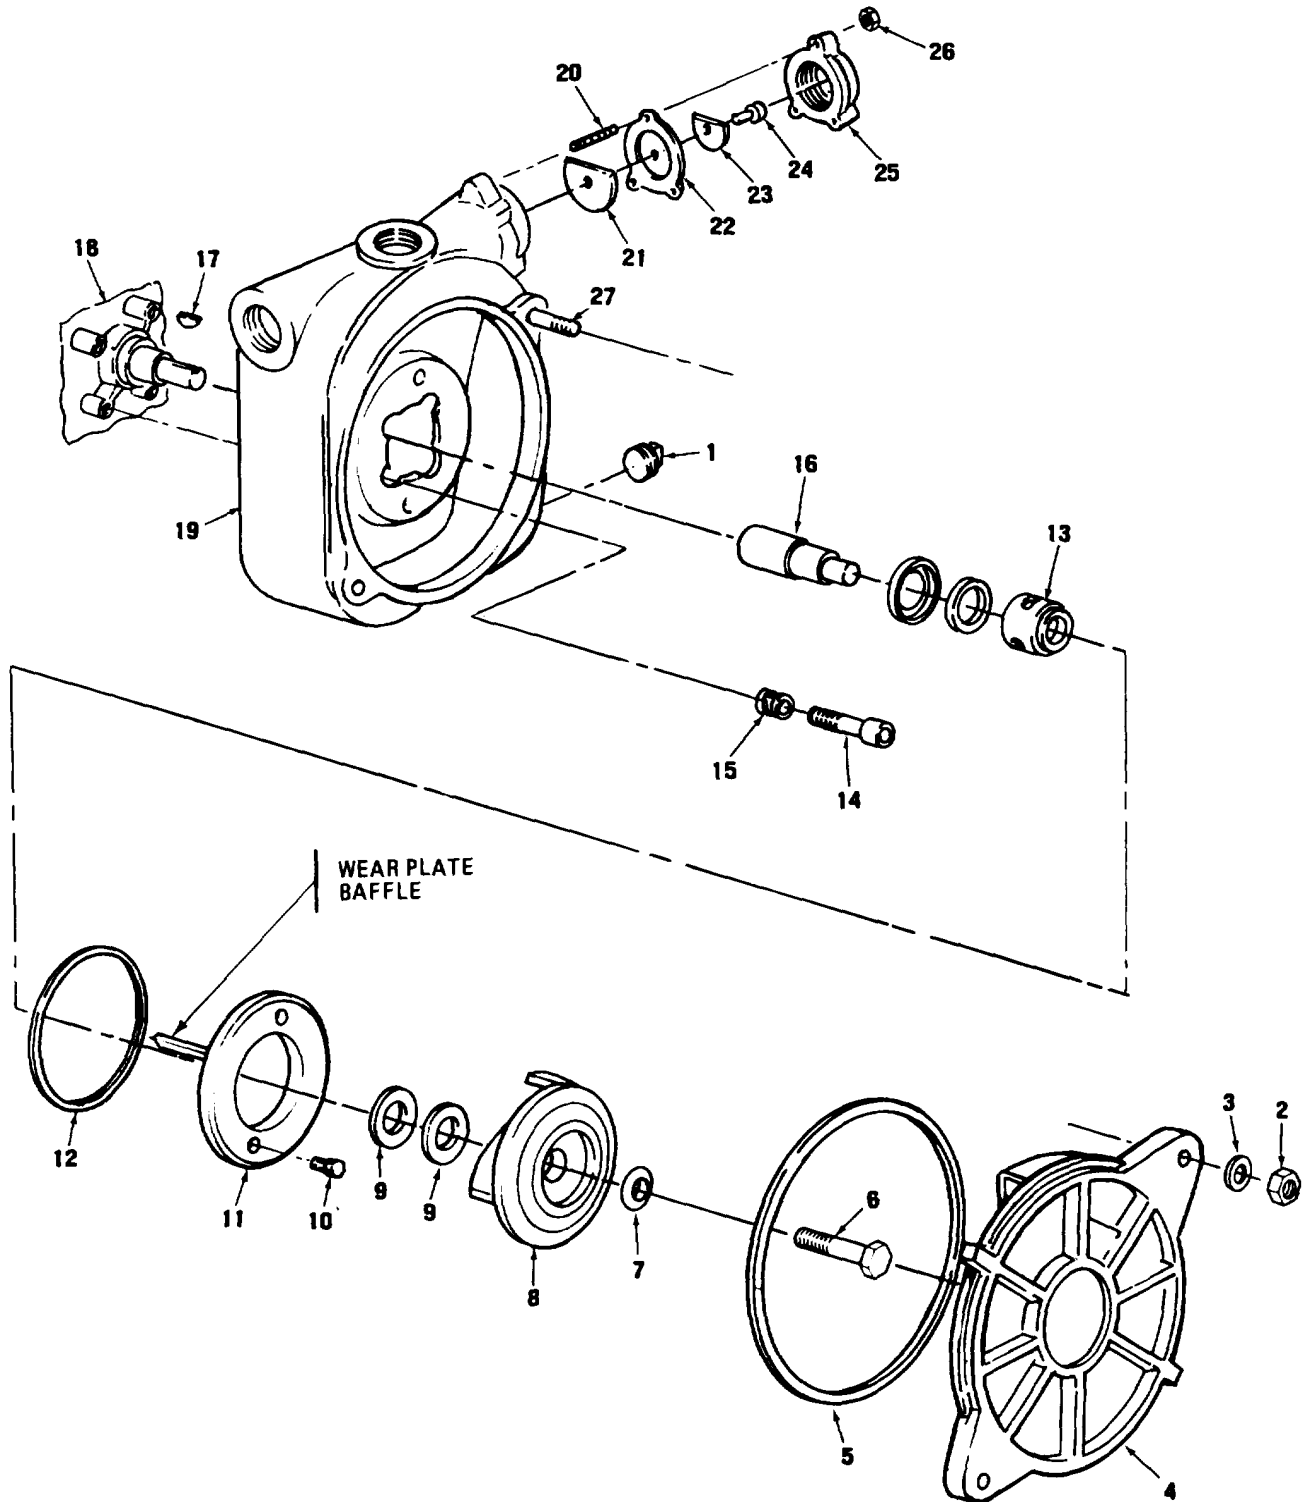

Figure 5-1. Centrifugal Pump and Check Valve.
a. Removal and Disassembly. (figure 5-1.)
- (1) Remove pump drain plug (1) and drain into suitable container.
- (2) Remove nuts (2) and washers (3) and remove volute (4) and O-Ring(5).
- (3) Remove center screw (6) and seal (7).
- (4) Remove impeller (8) by unscrewing counterclockwise while holding shaft stationary. (on EMD units, hold armature shaft stationary with screwdriver in slot)
- (5) Remove shims (9) screws (10) and wear plate (11).
- (6) Remove O-Ring packing (12) and seal assembly (13).
- (7) Extract four screws (14) and compression inserts (15), remove pump from engine.
- (8) Remove adapter shaft (16) and Woodruff key (17) from engine shaft (18).
- (9) Remove nuts (26), suction flange (25), screw (24), small weight (23), gasket (22), large weight (21) and studs (20) and (27) from pump case (19).
c. Assembly and Installation (figure 5-1).
- (1) Attach studs (20) and (27) to pump case.
- (2) Install large weight (21), gasket (22), small weight (23), screw (24), suction flange (25) and nuts (26).
(5) Lubricate and install O-Ring packing (12, figure 5-1) onto wear plate (11) (Item 3, App E).
(6) install wear plate (11) and screws (10). (inspect for bent or defective baffle on back side of wear plate).
(7) install shims (9) as required to maintain impeller-to-wear plate clearance at 0.010 to 0.015 inch (0.025 to 0.038 CM).
(8) Install impeller (8) new retaining packing (7) and center screw (6).
(9) Lubricate and install O-Ring (5), volute (4) and fasten with washer (3) and nut (2) (item 10, App E).
(10) Connect inlet elbow, discharge elbow, and priming port.
(11) Install pump drain plug (1).